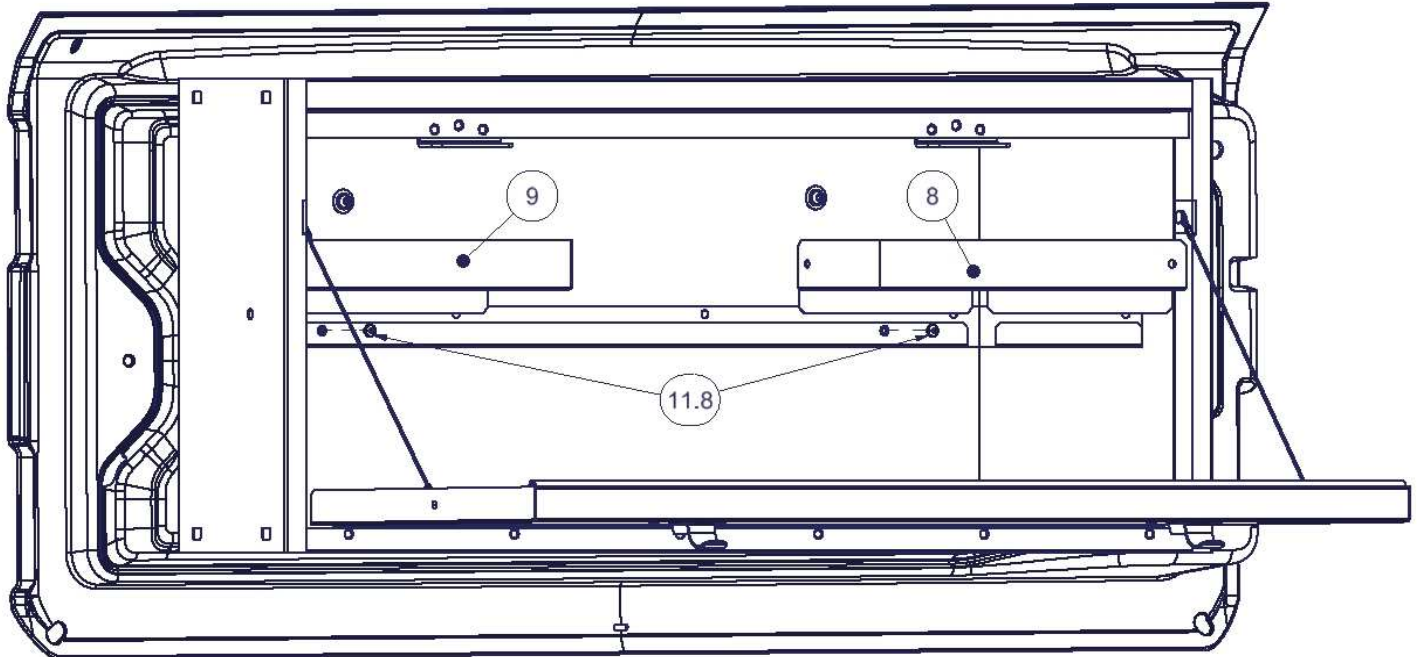

Figure 12
16. Install the removable shelves (#8 and #9) by placing the short flanges into the slotted rail that lines the back of the Lockbox. The (2) #11.8 Screws may then be installed and tightened to hold the trays in place during travel. See Figure 12.